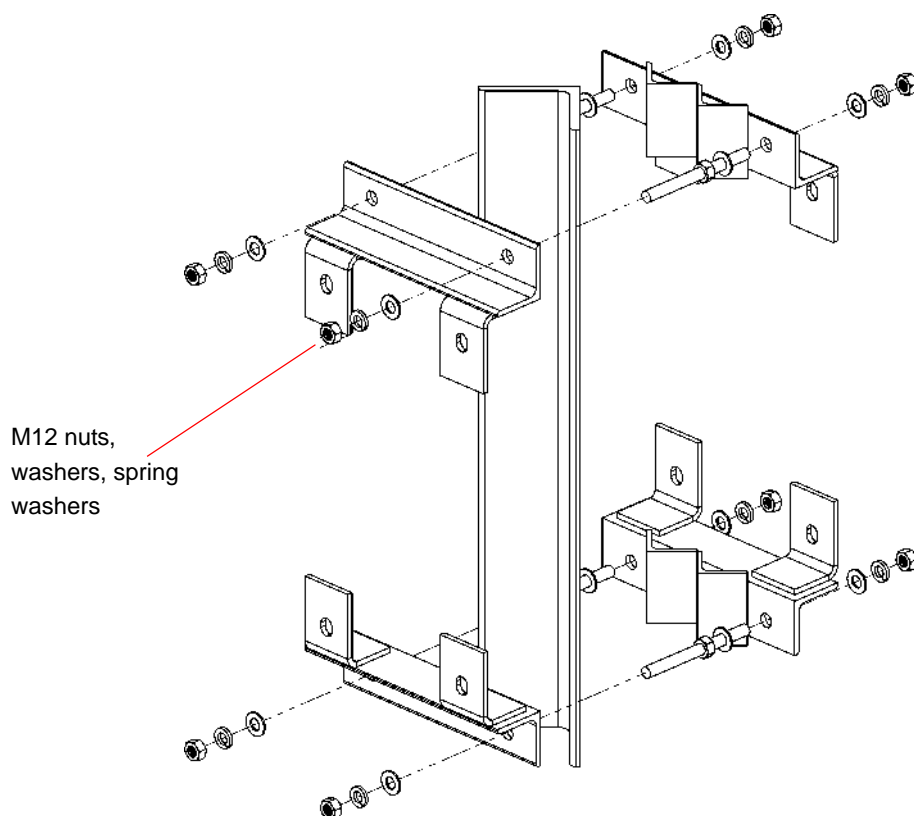

Figure 11: Assembling the Mounting Brackets
- 2 Assemble the mounting brackets at the desired location on the L-shape mast, as shown in Figure 11. Tighten using the supplied washers, spring washers and nuts. Apply torque of 53 [N*m] (465 [lbs*in]).